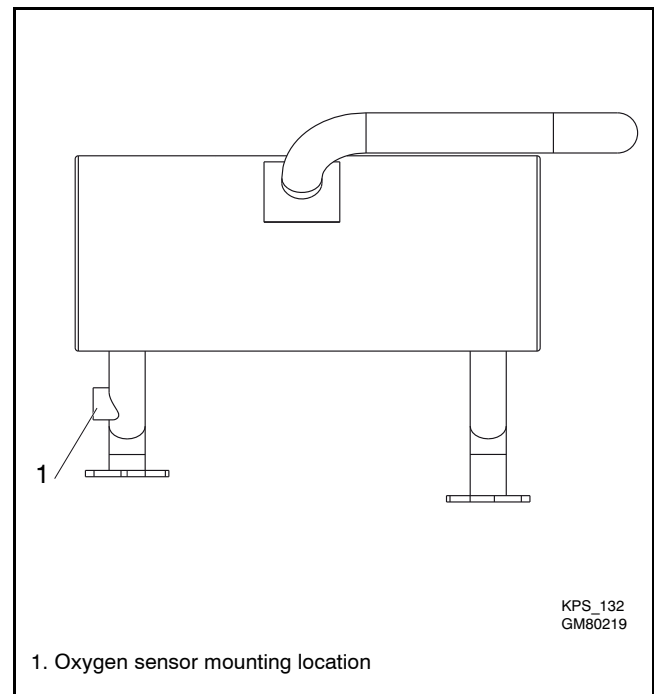

Figure 5-27 Oxygen Sensor Mounting Location
4. Remove the oxygen sensor plug from the silencer and install the oxygen sensor. See Figure 5-27 for location.